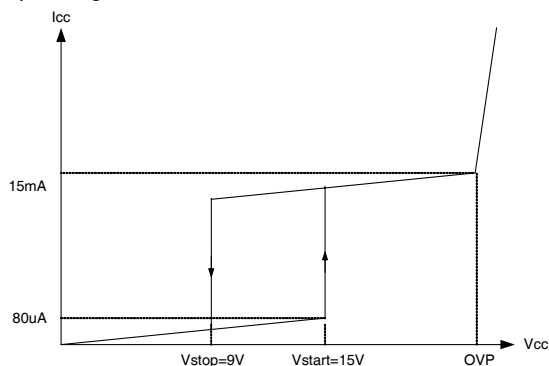

Figure 22. High Voltage Current Source
1. Start up: To guarantee stable operation of the control IC, FS8S0765RCB has UVLO circuit with 6V hysteresis band. Figure 22 shows the relation between the supply current (I_{cc}) and the supply voltage (V_{cc}). Before V_{cc} reaches 15V, the FPS consumes only startup current of 80mA, which is usually provided by the DC link through the start-up resistor. When V_{cc} reaches 15V, the FPS begins operation and the operating current increases to 15mA as shown. Once the control IC starts operation, it continues normal operation until V_{cc} goes below the stop voltage of 9V.